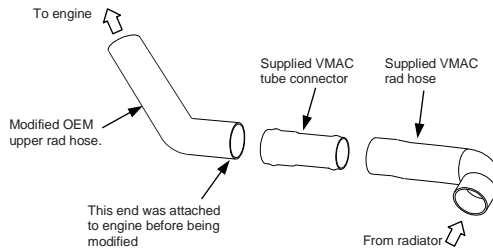

Figure 5.15
- ☐ Connect the modified upper radiator hose to the radiator along with supplied VMAC radiator hose and tube connector. When connecting the modified OEM upper radiator hose rotate the hose so the end that previously went to the engine before being modified will now connect to the supplied VMAC tube connector. (Figure 5.15)